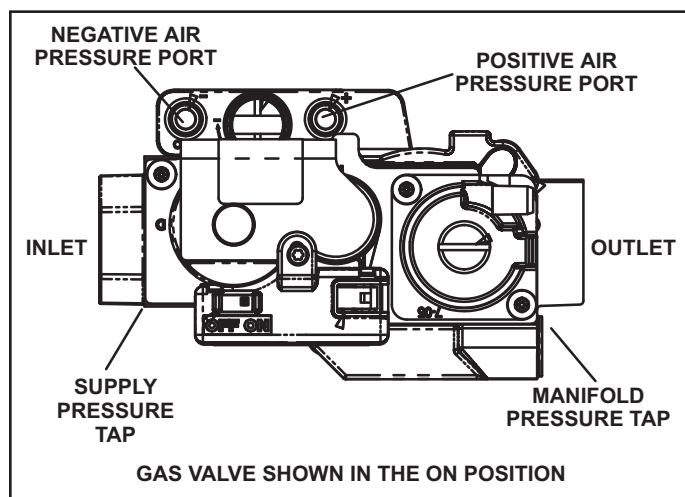

Figure 45. Gas Valve
6. Move gas valve switch to OFF. See Figure 45.
8. Move gas valve switch to ON. See Figure 45.
When testing supply gas pressure, connect test gauge to supply pressure tap on the gas valve. See Figure 45. Check gas line pressure with unit firing at maximum rate. Low pressure may result in erratic operation or underfire. High pressure can result in permanent damage to gas valve or overfire. See Table 24 for operating pressure at unit gas connection (line).